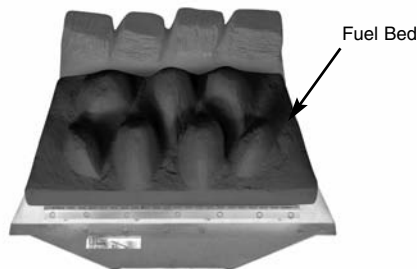

Fig. 51
2. Place the main fuel bed on to the middle section of the metal burner tray. It is important that the front edge of the fuel bed is located behind the burner strip (Fig. 51).